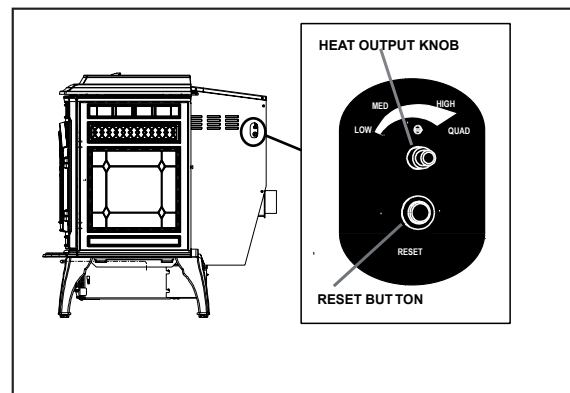
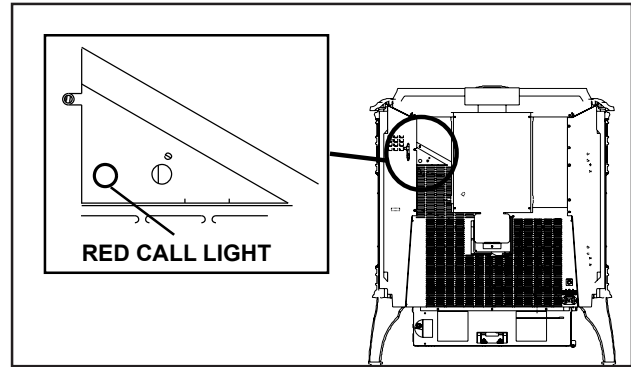

Figure 20.1
Figure 21.1
The set screw is located at the bottom of the hopper and set loose at the factory so the fuel adjustment control rod will slide up and down by only loosening the thumb screw at the top. **See Figure 21.1.** Do not re-tighten bottom set screw.
3. Locate the heat output control knob mounted on the upper right corner of the side panel. **See Figure 20.1 on page 20.** Turn it to the "quad" setting by turning clockwise until it stops and then adjust the thermostat to its highest setting. The red call light located on the upper right corner on the back of the appliance will be on. **See Figure 21.1.** This indicates the thermostat is calling for heat.
3. Occasionally the appliance may run out of fuel and shut itself down. When this happens, the red call light will be on. **(See Figure 21.1, page 21)**. To restart it, fill the hopper and press the reset button. **(See Figure 20.1, page 20)**. When you press the reset button the red call light will go out. Release the button and the light will come back on. You should see a fire shortly. If not, follow the instructions on **page 21**, of “Starting Your First Fire”.